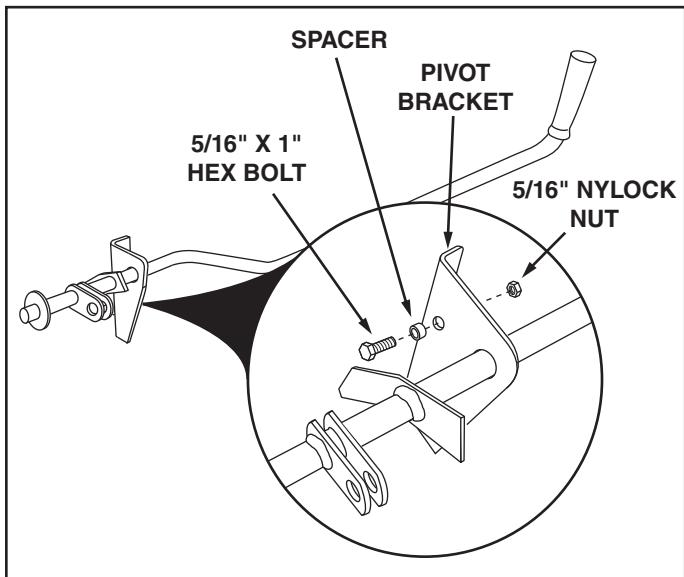

FIGURE 1
- Assemble a 5/16" x 1" hex bolt, a spacer and a 5/16" nylock nut to the hole in the R.H. pivot bracket. See figure 1.